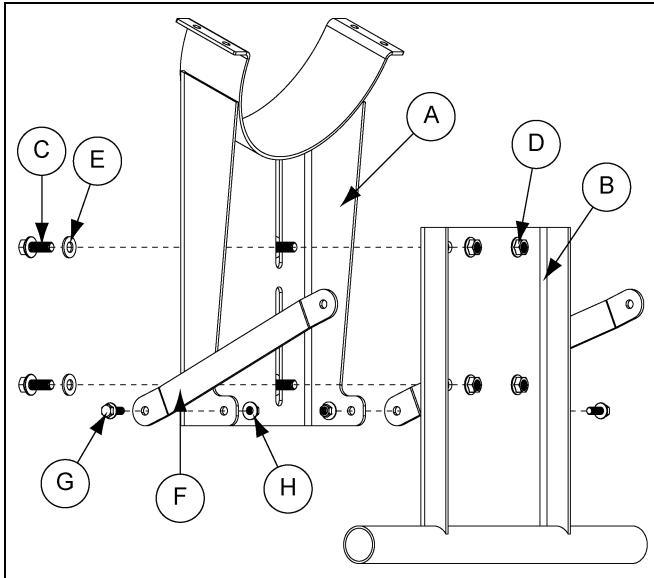

Figure 4A
1. Attach the lower stand plate (B) with the upper stand plate (A) by using the 1/2" bolts (C), nuts (D) and washers (E). (See Figure 4A.)
2. Attach the stand strap (F) with the upper stand plate (A) by using the 3/8" bolts (G) and nuts (H). (See Figure 4A.)